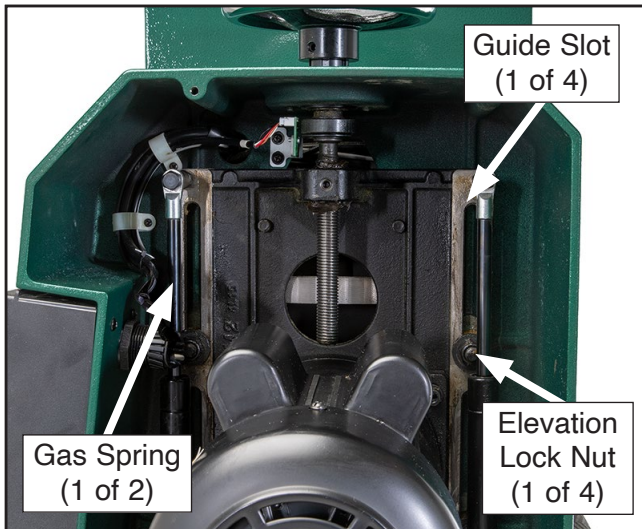

Figure 41. Elevation system.
Headstock movement is guided by slots in the mounting bracket and held in place with four elevation lock nuts. Gas springs help lift the weight of the headstock to provide smooth movement (see **Figure 41**).
3. Adjust elevation lock nuts shown in **Figure 41** on all (4) guide rails an equal amount, by $\frac{1}{4}$ turns.